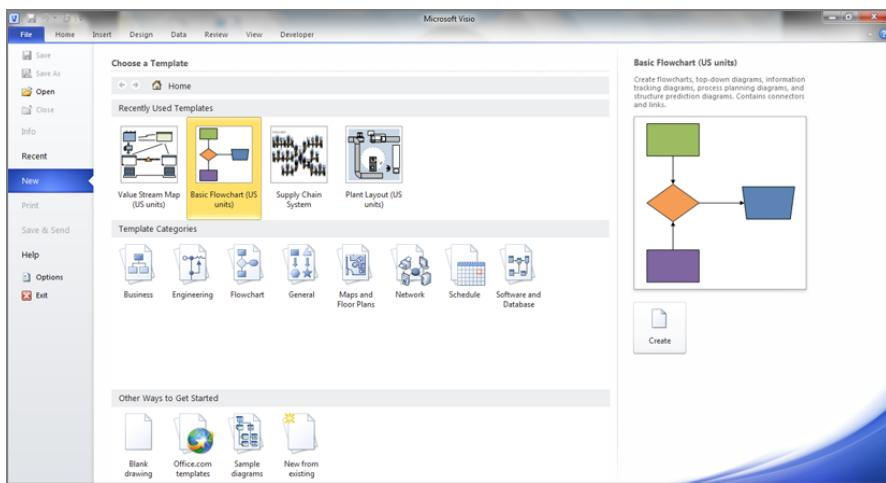

Figure 11-15
1. Open Visio and create a new drawing using the Basic Flowchart as the selected Template (see Figure 11-15).